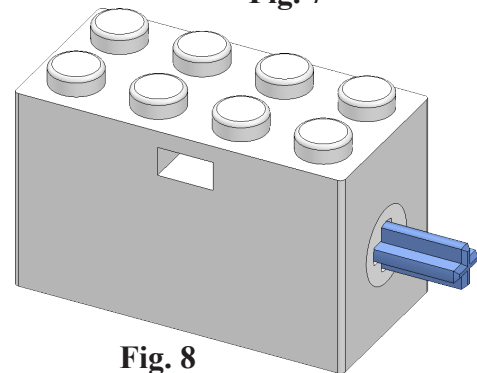

Fig. 8
Step 3. Click **Distance**  in Mate pop-up, **Fig. 7**. Set **distance 8** and press ENTER. The Axle should be positioned outside of the Motor, **Fig. 8**. If positioned in opposite direction, click **Flip Dimension**  in the Mate pop-up.